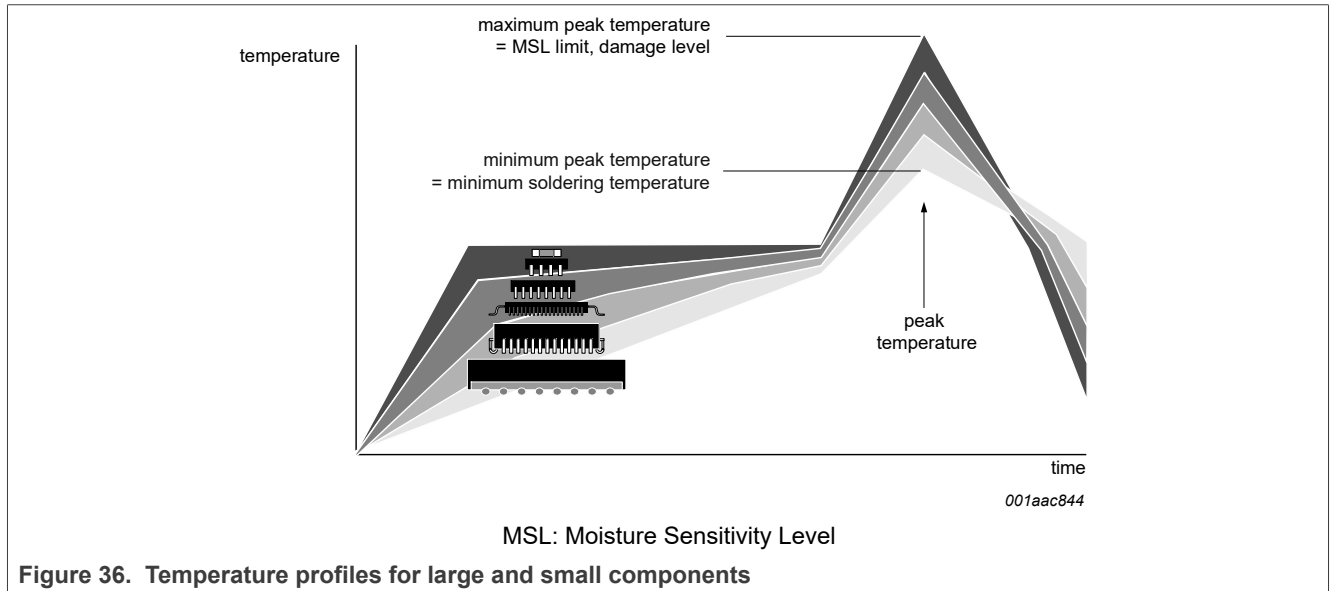

Figure 36. Temperature profiles for large and small components
- Lead-free versus SnPb soldering; note that a lead-free reflow process usually leads to higher minimum peak temperatures (see Figure 36) than a SnPb process, thus reducing the process window.
Studies have shown that small packages reach higher temperatures during reflow soldering, see Figure 36.